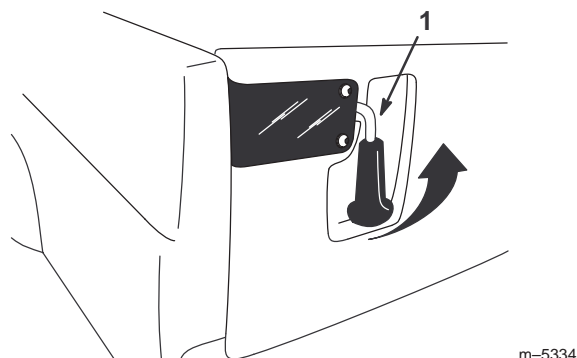

Figure 11
- To open the tailgate latches, lift the latch handles up (Fig. 11). The latches will spring out toward the center of the tailgate. Slowly lower the tailgate.